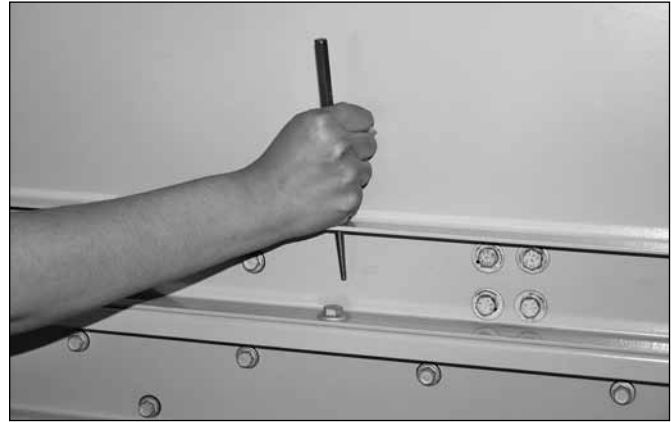

Figure 5
6. Insert drift pins downward through the four corner screw holes in the casing (Figure 5). Continue to lower the casing slowly, maintaining alignment with the drift pins until it rests on the basin section.